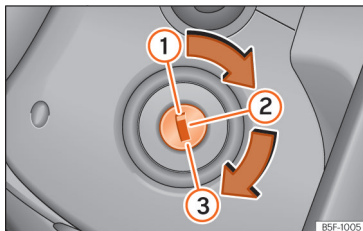

Fig. 160 Vehicle key positions
- Turn the ignition key to position ① »» Fig. 160.
- Remove the key from the ignition in position ① »» Fig. 160 »» ⚠.